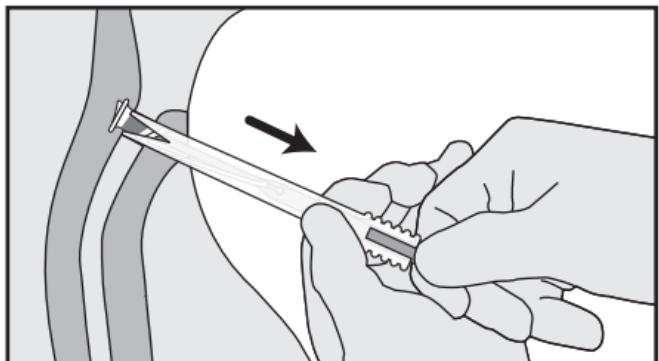

Figure 10
4. **Check the prosthesis placement** by holding the loading tube and inserter together and pulling them back through the puncture until the tracheal flange reaches the posterior esophageal wall (Fig. 10).